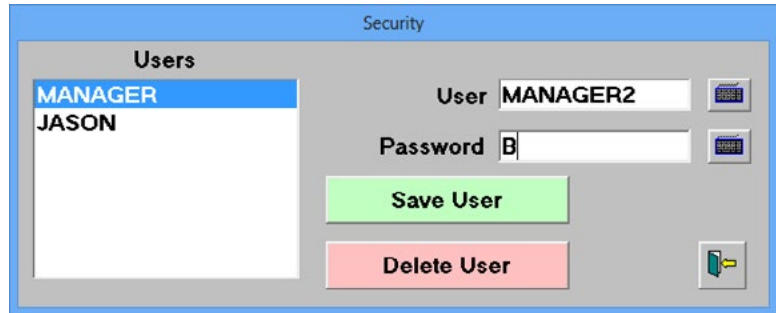

Figure 23. Select a user. Change the Username and Password. Press **Save User**.
1. Select an existing user in the **Users** list (see Figure 23).